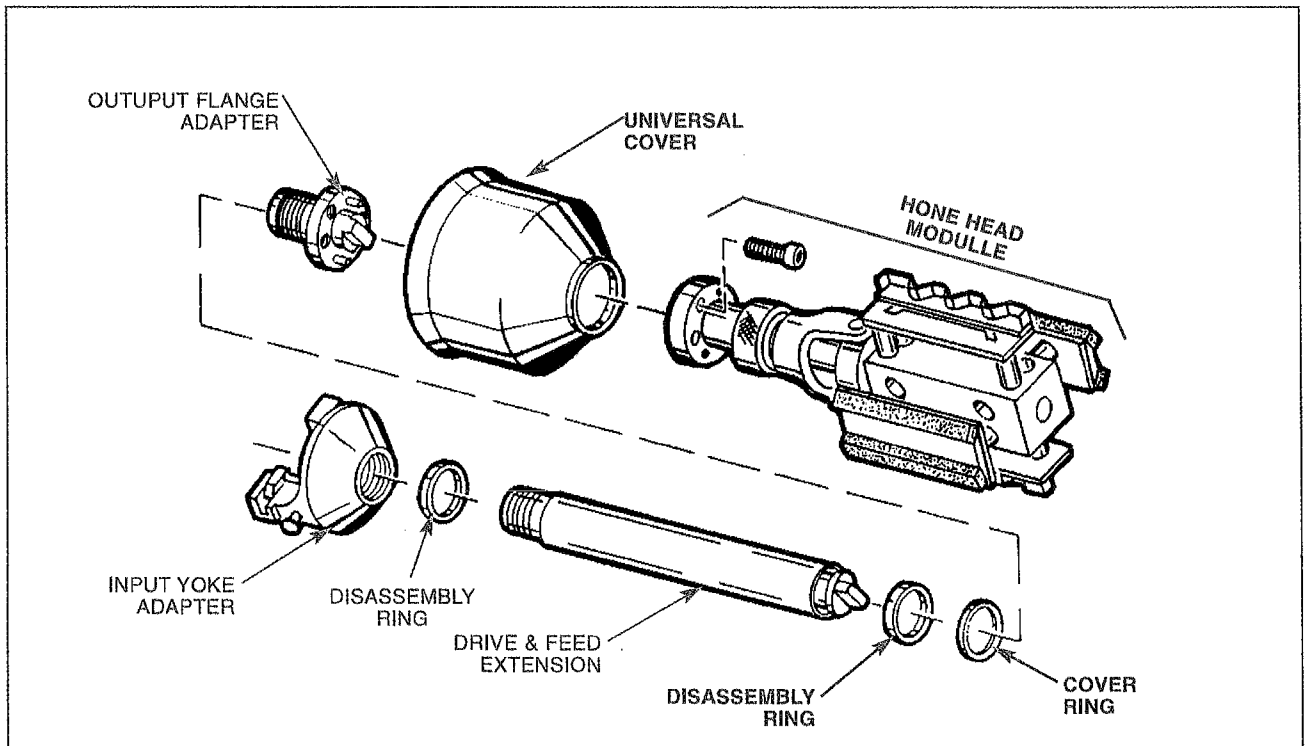

FIGURE 3-1, Honing Tool
2. Assemble the Sunnen Wide Range Power Honing Tool according to Installation Instructions packaged with tool (see Figure 3-1).